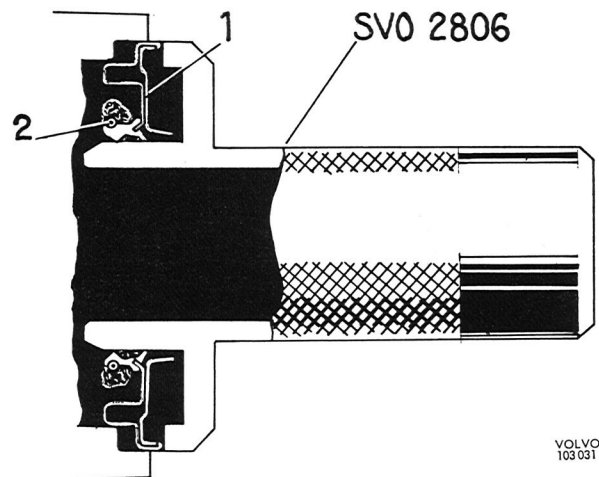

Fig. 4-151. Oil seal installation
3. Coat the lips of the new seal with grease. Lubricate also the spring coil so that it does not jump off during installation. Then install the oil seal with tool 2806, see Fig. 4-151.